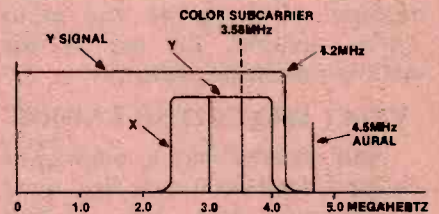

Figure 2.
2. Figure 2 shows the distribution of signals in a television channel. Which of the following is correct?